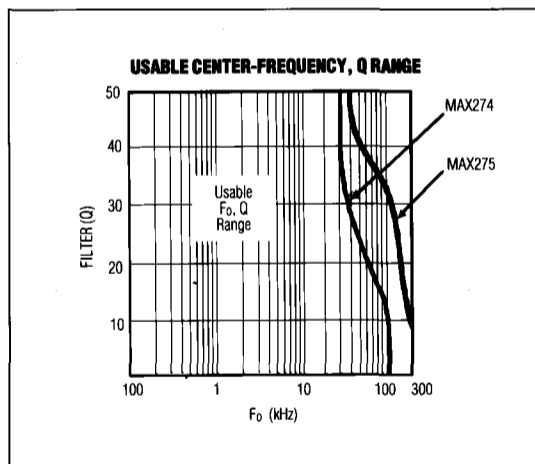

Figure 4. Usable F_0 , Q Range. See *Translating F_0/Q Pairs into Hardware (Resistor Selection)*.
1. Check all F_0/Q pairs for realizability. The MAX274/MAX275 have limits on which F_0/Q values can be implemented. These limits are bound by finite amplifier gain-bandwidth and amplifier load drive capability (which limit the highest frequency F_0 /highest Q s) as well as amplifier noise pickup and susceptibility to errors caused by stray capacitance (which sets a low-frequency limit on the poles). Refer to Figure 4 to be sure each F_0/Q pair is within the "realizable" portion of the graph. If filter Q s are too high, reduce them by increasing the filter order (that is, increase the number of poles in the overall filter).
High-frequency F_0 s (up to 400kHz) and high Q s outside of Figure 4's limits are also realizable, but F_0 and Q will deviate significantly from the ideal. Adjust resistor values by prototyping.